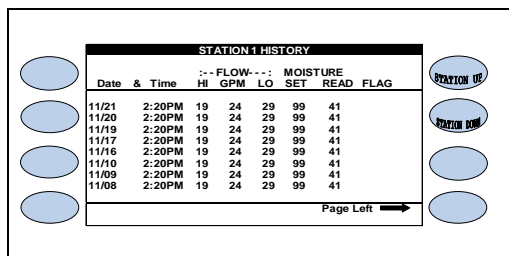

Figure 6.11
3. Press the **PAGE LEFT** Menu key to view the next screen (Figure 6.11).